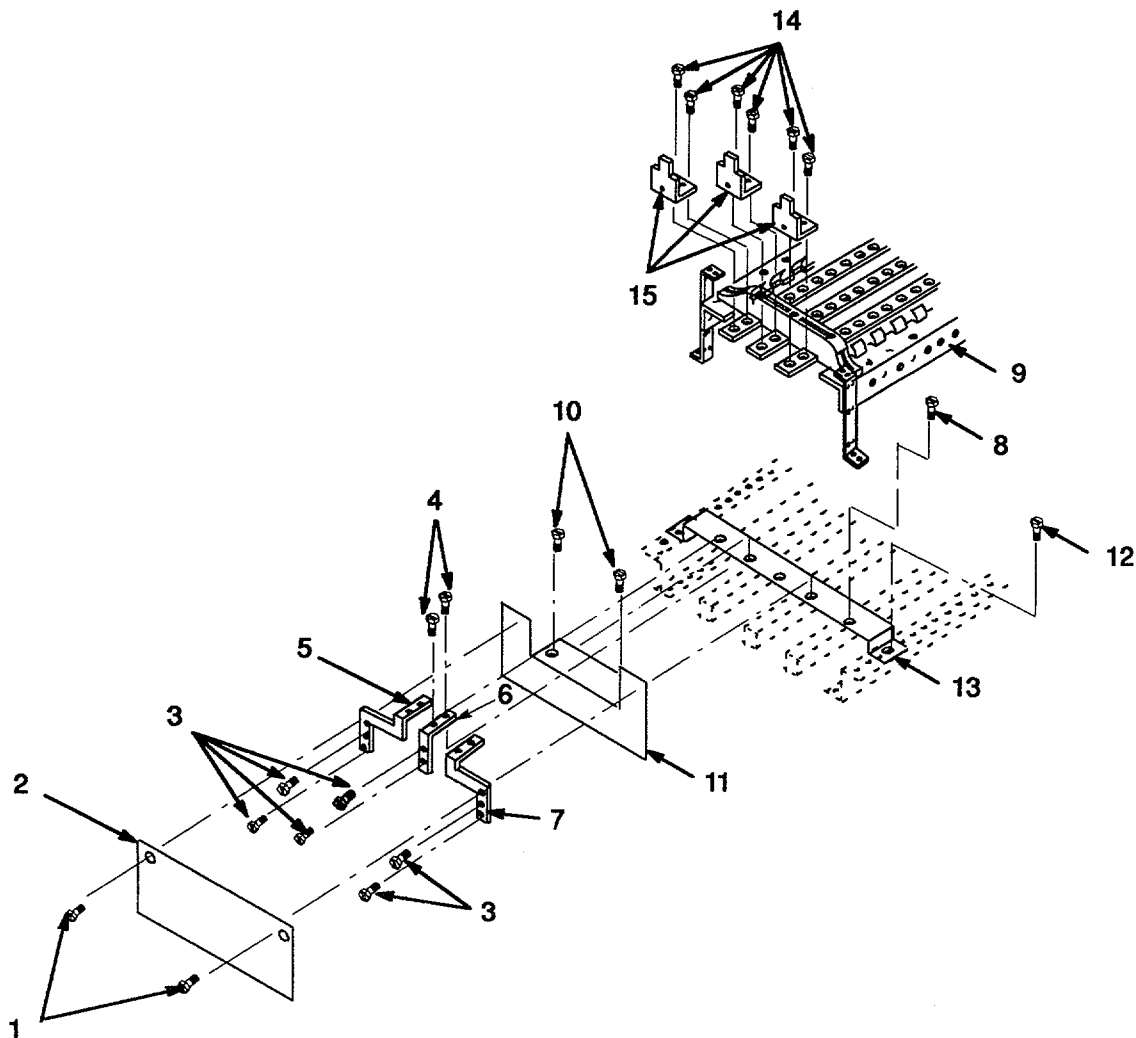
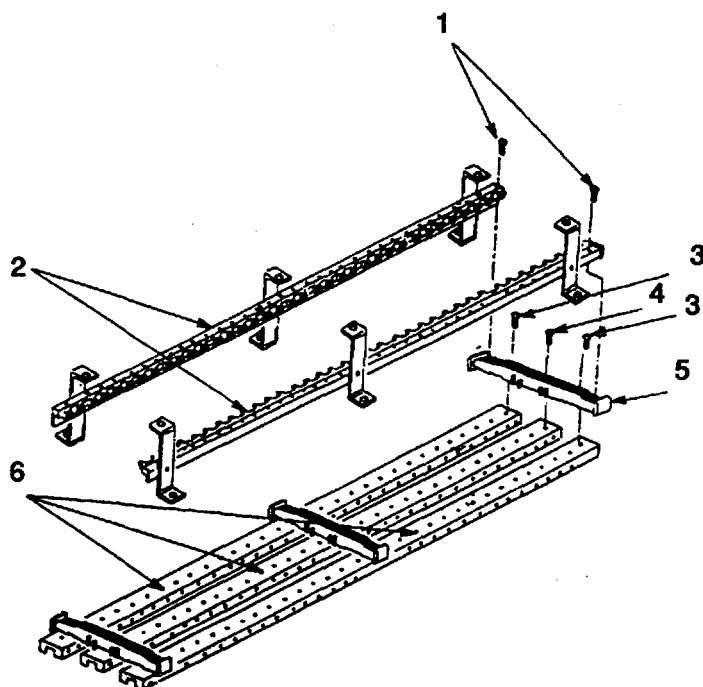

Figure 5-6. Sub Chassis Bus Bar.
Figure 5-7. Sub Chassis Bus Bar.
- (1) Perform removal procedures in para 5-9.a.1.
- (2) Remove four plastic rivets (1, Figure 5-6) and two connector insulation (2).
- (3) Remove twelve screws (3).
- (4) Remove twelve screws (4), two connectors (5), two connectors (6), and two connectors (7).
- (5) Remove six screws (8) and sub chassis bus bar (9).
- (6) Remove four plastic rivets (10) and two paper insulators (11).
- (7) Remove six screws (12) and three sub chassis brackets (13).
- (8) Remove twelve screws (14) and six bus bar connectors (15).
- (9) Remove six screws (1, Figure 5-7) and two breaker mounting rails (2).
- (10) Remove six screws (3), three screws (4) and three bus supports (5) and bus bars (6).
- (11) Refer to main bus bar removal procedures, para c, for further disassembly.
- a. Attach three bus supports (5, Figure 5-7) to three bus bars (6) with six screws (3) and three screws (4). Tighten nine screws.
- b. Attach two breaker mounting rails (2) to three bus supports (5) with six screws (1). Tighten screws.
- c. At 400 amp circuit breaker end, position three bus bar connectors (1 5, Figure 5-6) above the sixth hole from the end of main bus bar and install six screws (14). Tighten screws.
- d. At other end of main bus bar, position three bus bar connectors (1 5) above the second hole from bus bar end and install six screws (14). Tighten screws.
- f. Attach two paper insulators (11) to sub chassis brackets (13) with four new plastic rivets (10).
- g. Attach sub chassis bus bar (9) to three sub chassis brackets (13) with six screws (8). Tighten six screws.
- h. Attach two connectors (5), two connectors (6) and two connectors (7) to six bus bar connectors (15) with twelve screws (4).
- i. Attach two connector insulations (2) to connectors (5 and 7) with four new plastic rivets (1).